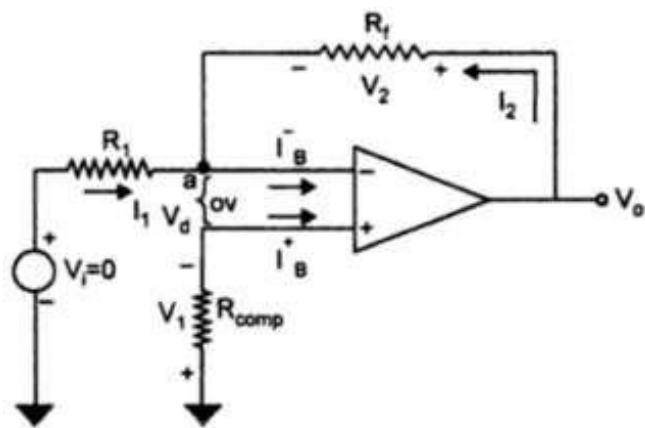

Fig 1.1 Input bias current and Bias current compensation
- In fig 1.1, the base current entering into the inverting and non-inverting terminals are I_B^- and I_B^+ respectively. I_B^- and I_B^+ are not exactly equal due to internal imbalance between the two inputs.